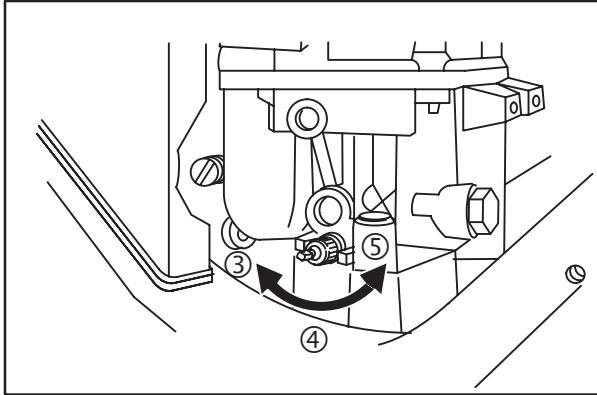

Fig. 16
4. Turn idle mixture screw slowly **CLOCKWISE** (3) until engine speed just starts to slow (LEAN mixture), **Fig. 16**.
5. Then turn idle mixture valve **COUNTERCLOCKWISE** (5) until engine speed just starts to slow (RICH mixture).
6. Turn valve to mid point (4) between RICH and LEAN.